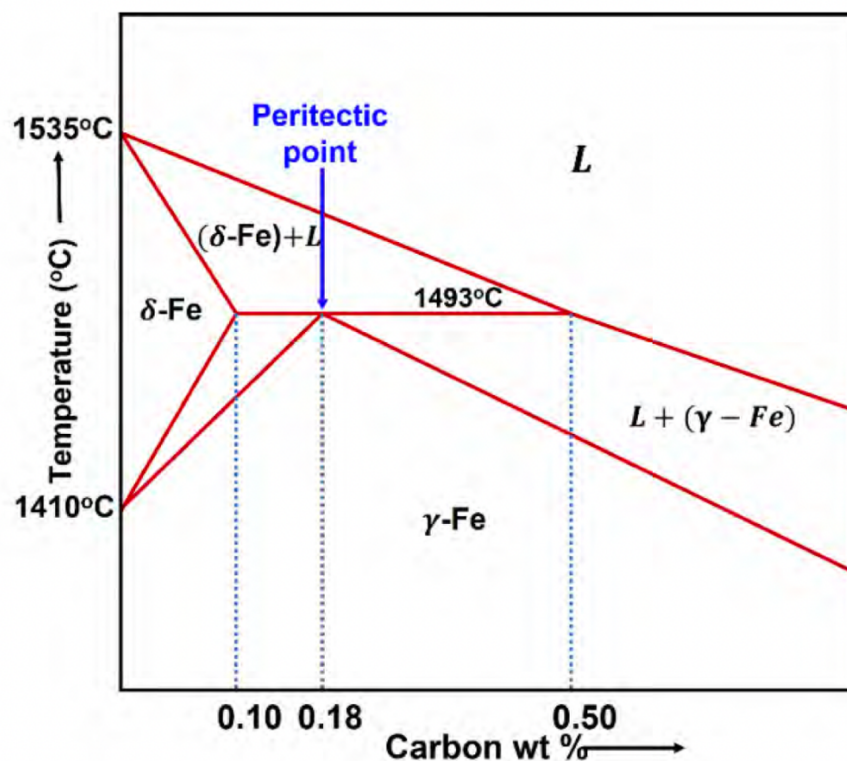

Fig. 2.12: Schematic of peritectic reaction for carbon steel
- **DIAGRAM REFERENCE:** FIG. 2.12 - PERITECTIC REACTION IN THE CARBON-STEEL SYSTEM.